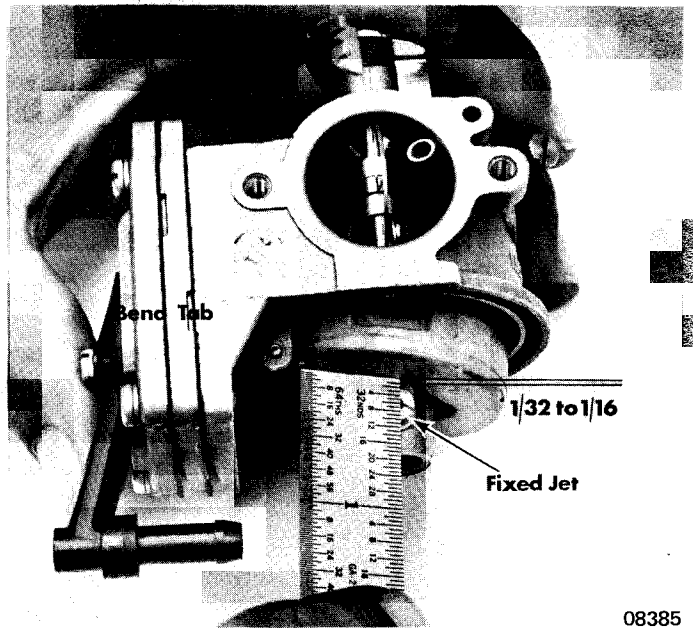

Figure 6. Float Drop Adjustment
2. Adjust float drop to get  $\frac{1}{16}$ " (1.6mm) to  $\frac{1}{32}$ " (.8mm) between bottom of float and fixed jet. (Figure 6) Adjust by bending tang on float.